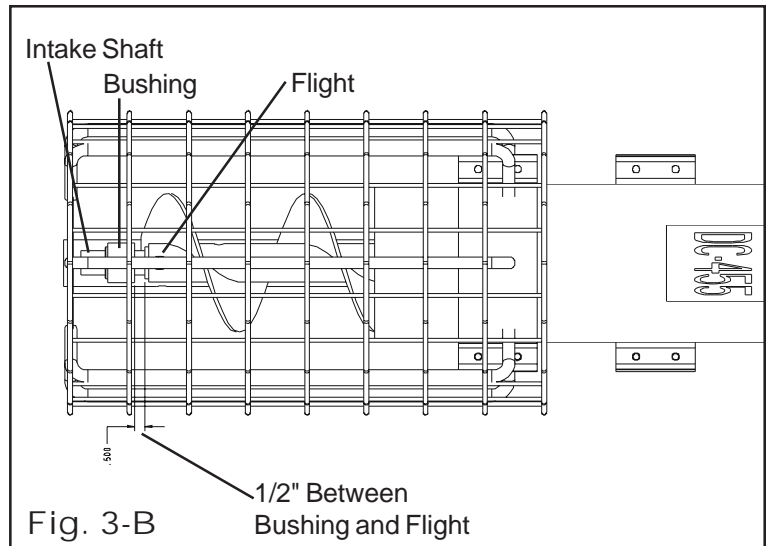

Fig. 3-B
B. With the Intake Shaft inserted in the bushing make sure to leave approximately 1/2" of clearance between the end of the Flight and the face of the bushing. (See Figure 3-B)
C. Attach the Intake Guard to the Tube using the proper hex bolts and Nylock nuts through the half bands that are welded to the Intake Guard. (See Chart Below) (See Figure 3-C)